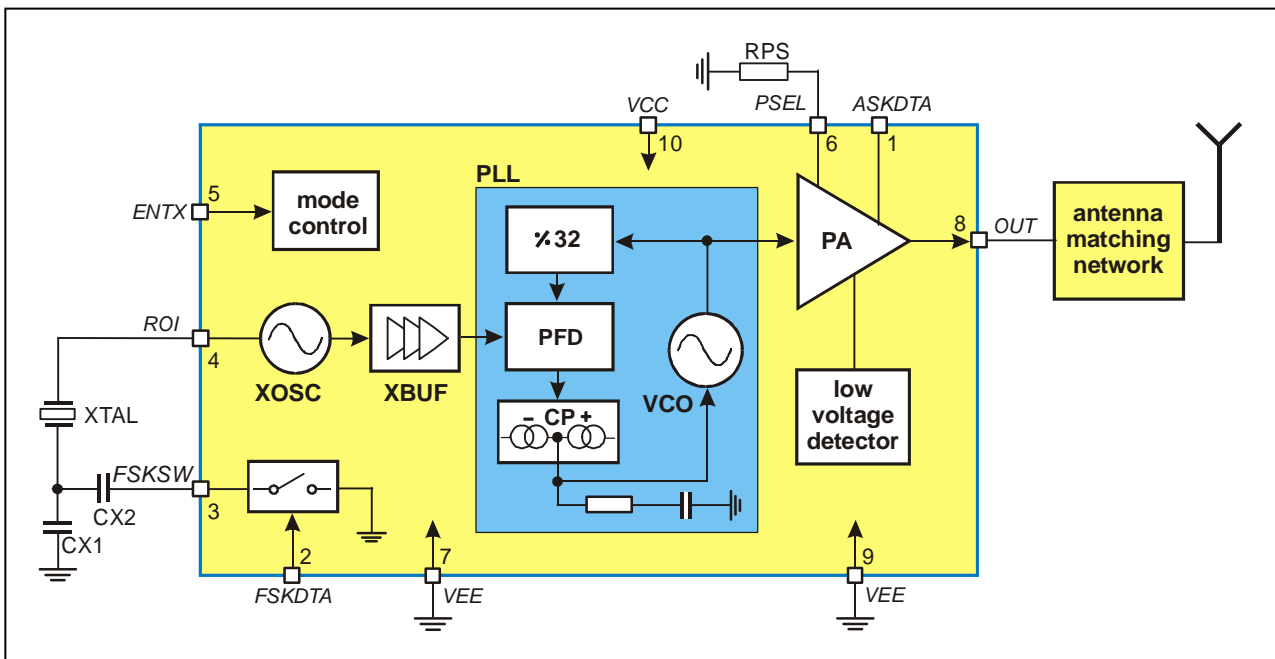

Fig. 1: Block diagram with external components
As depicted in Fig.1, the TH72015 transmitter consists of a fully integrated voltage-controlled oscillator (VCO), a divide-by-32 divider (div32), a phase-frequency detector (PFD) and a charge pump (CP). An internal loop filter determines the dynamic behavior of the PLL and suppresses reference spurious signals. A Colpitts crystal oscillator (XOSC) is used as the reference oscillator of a phase-locked loop (PLL) synthesizer. The VCO's output signal feeds the power amplifier (PA). The RF signal power P_{out} can be adjusted in four steps from $P_{out} = -12$ dBm to +10 dBm, either by changing the value of resistor RPS or by varying the voltage V_{PS} at pin PSEL. The open-collector output (OUT) can be used either to directly drive a loop antenna or to be matched to a 50Ohm load. Bandgap biasing ensures stable operation of the IC at a power supply range of 1.95 V to 5.5 V.